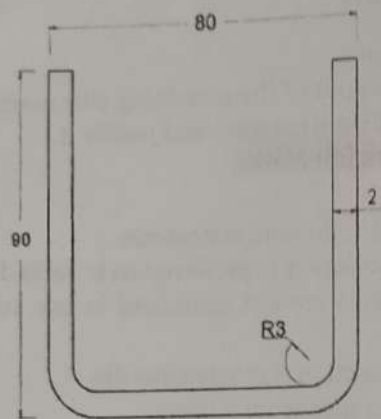

Fig No.2
3. (a) A circular cup as shown in figure no. 2 is manufactured by using deep drawing operation. (Material: MS Cup, Thickness: 2mm, Yield Strength: 35 kgf/mm^2). Determine following. 20